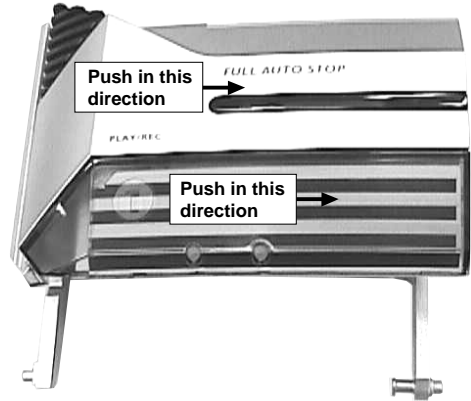
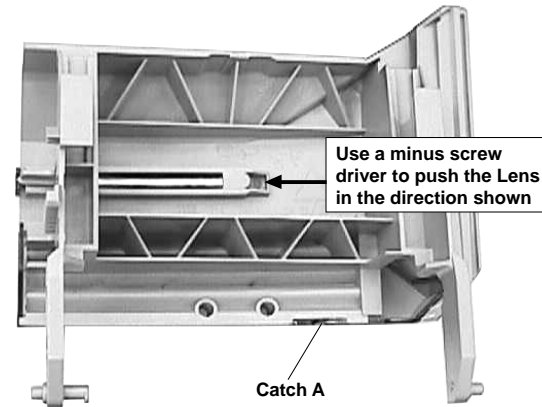

Figure 7
Figure 8
- 1) Loosen the Lens Cassette Strip Left Top (pos 163) by pushing it towards the inside as indicated in Figure 7 and remove it by using a minus screw driver force it out as indicated in Figure 8.
- 2) Remove the Lens Cassette Left (pos 161) by pushing it towards the inside as indicated in Figure 7. Be careful not to damage or break the catch A.
- 3) Do likewise for the right Cassette Door Lens (pos 160 and 162).